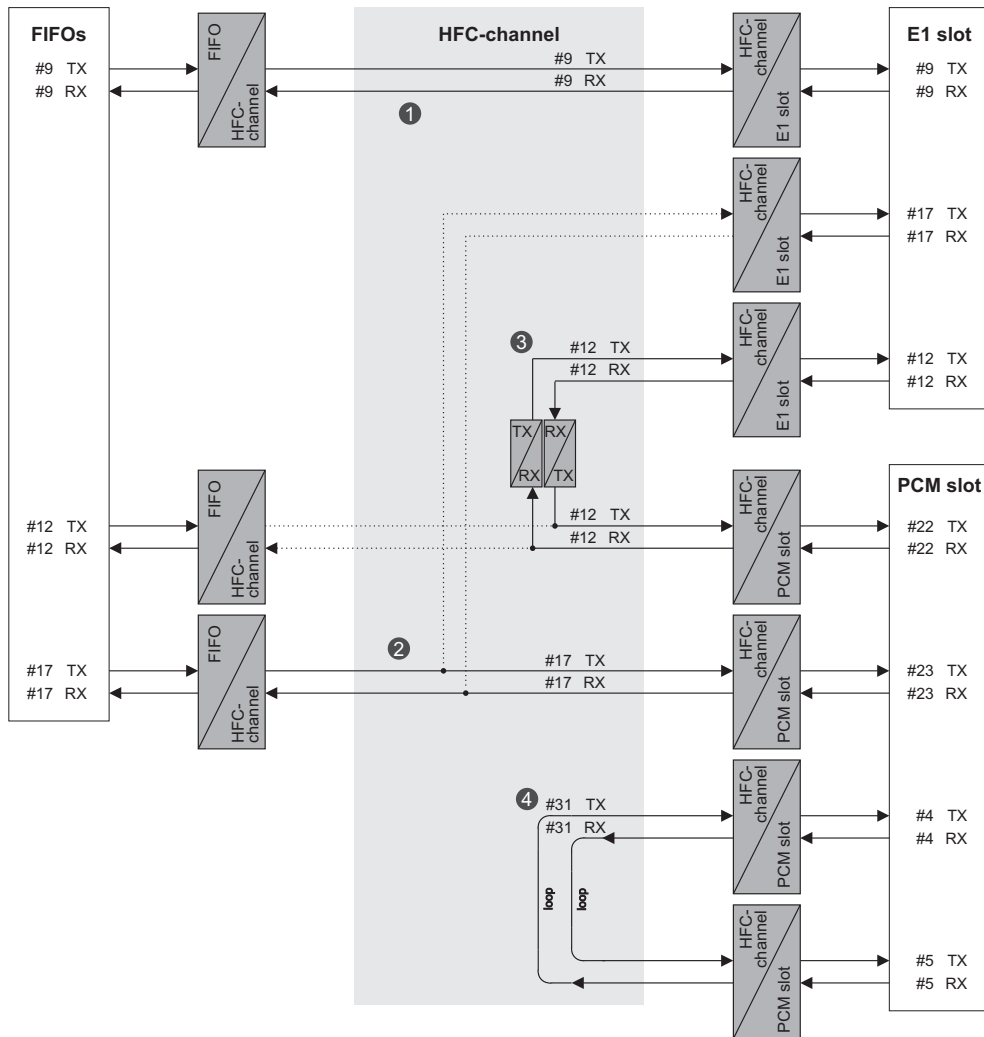

Figure 3.7: SM example
Figure 3.7 shows an example with four bidirectional connections (❶ FIFO-to-E1, ❷ FIFO-to-PCM, ❸ PCM-to-E1 and ❹ PCM-to-PCM). The FIFO box on the left side contains the number and direction information of the used FIFOs. The E1 and PCM boxes on the right side contain the E1 time slots and PCM time slot numbers and directions which are used in this example. Black lines illustrate data paths, whereas dotted lines symbolize blocked resources. These are not used for the data transmission, but they are necessary to enable the settings.
All settings in Figure 3.7 are configured in bidirectional data paths due to typical applications of HFC-E1. However, transmit and receive directions are independent from each other and could occur one at a time as well.